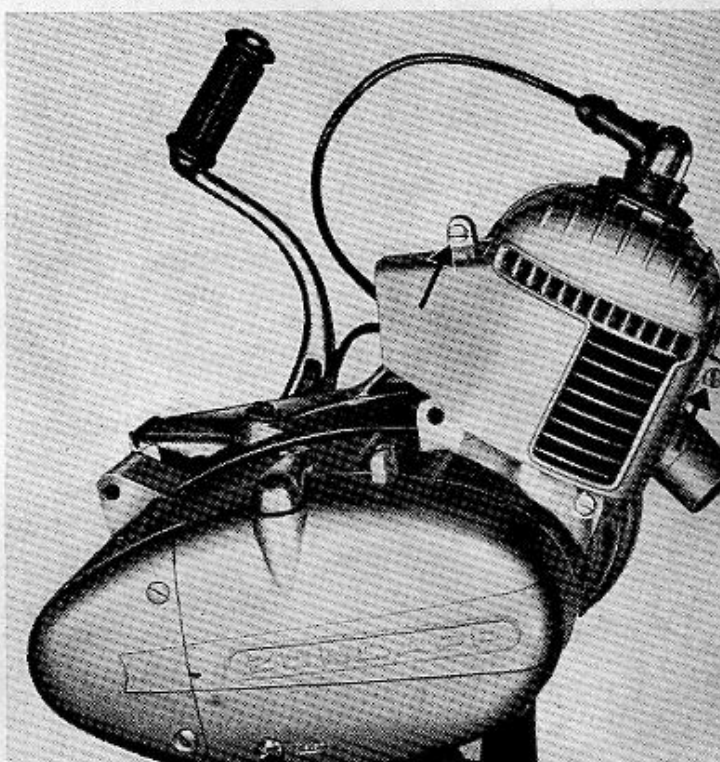

Fig. 100
**Note:** Check that the 2 rubber buffers are fitted inside the fan cap (fig. 100).